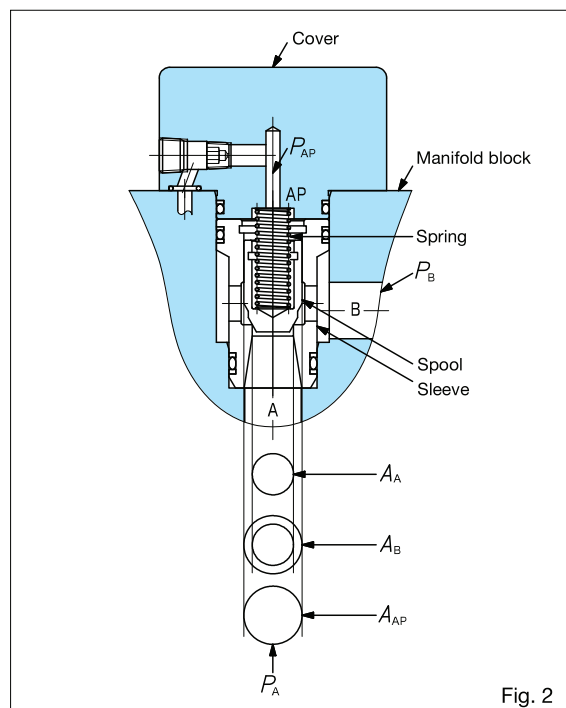

Fig. 2
- As Fig. 2 shows, pressure at port A and B act on the spool to move it in the open direction. Port A pressure,  $P_A$ , acts on the valve seat diameter circular area  $A_A$ . Port B pressure,  $P_B$ , acts on the concentric circular area,  $A_B$ , within the valve seat and spool diameters. Pilot pressure,  $P_{AP}$ , from the control cover acts on the top of the spool to close it. The area of pressure is the area of the spool diameter ( $A_P = A_A + A_B$ ). Valve opening and closing is determined by the balance of these pressures, spring force  $F_s$ , and flow forces,  $F_i$ .